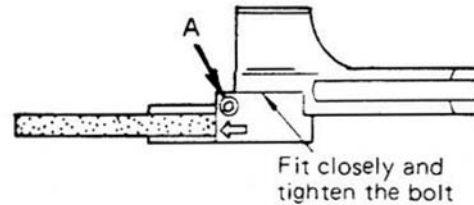

Figure 2
4. Adjust head to desired angle and tighten hex socket cap screw (A, Figure 2), with hex wrench supplied.
2. Loosen hex cap screw (A, Figure 2), turn head 90-degrees to the handle, and tighten screw to lock. See Figure 4.